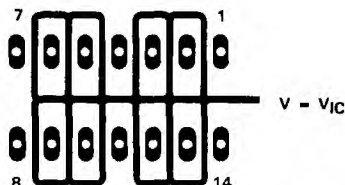

FIGURE 4. ISOLATION METAL AROUND DEVICE INPUTS (J AND N DUAL-IN-LINE-PACKAGE)
1. Isolate the device from other potential leakage sources. Use a grounded shield around and between the device inputs (see Figure 4). Leakages that would otherwise flow to the inputs will be shunted away.